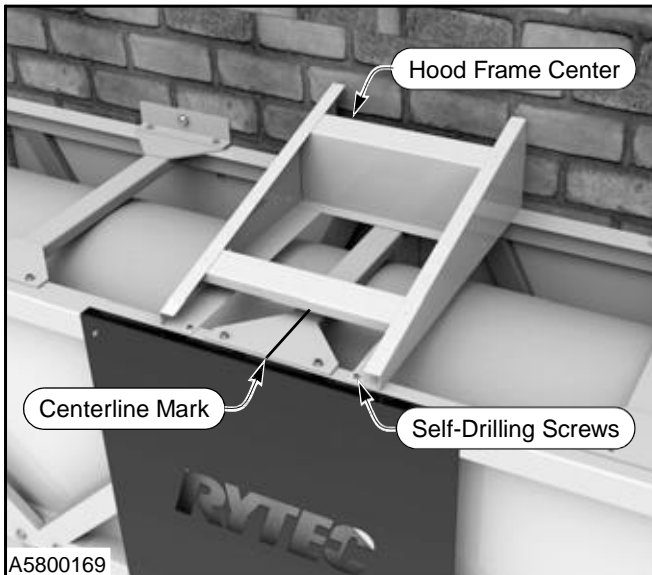

Figure 39
7. Use four $\frac{1}{4}$ -14 x $\frac{3}{4}$ self-drilling screws to secure the front of the hood frame center to the truss. (See Figure 39)